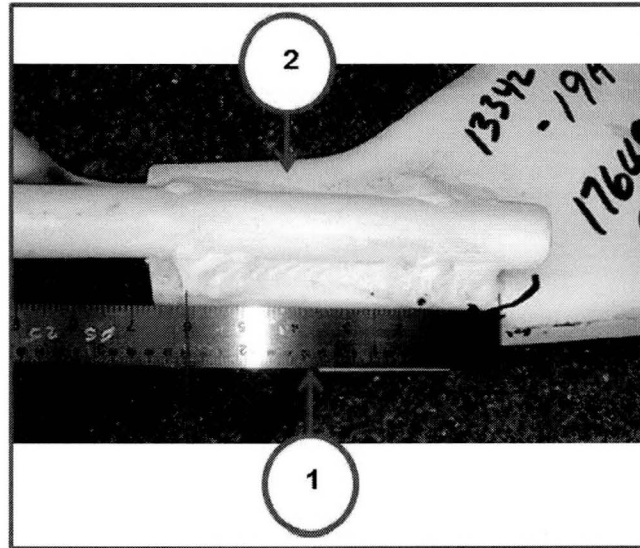

Fig. 5 Reinforce Weld to a Length of 60mm
13. Add additional flare-groove weld length with GTAW ("TIG" weld) using a 90-degree torch with a stub back-cap adding 409SS wire to reach a minimum required length (60mm (2.36 in.)) on each side of the hanger rod (Fig. 5). The GTAW power supply should be set to a mode with High Frequency (HF) in Start Only: HF shuts off shortly after the arc is established. This gives better protection to electronic system components.